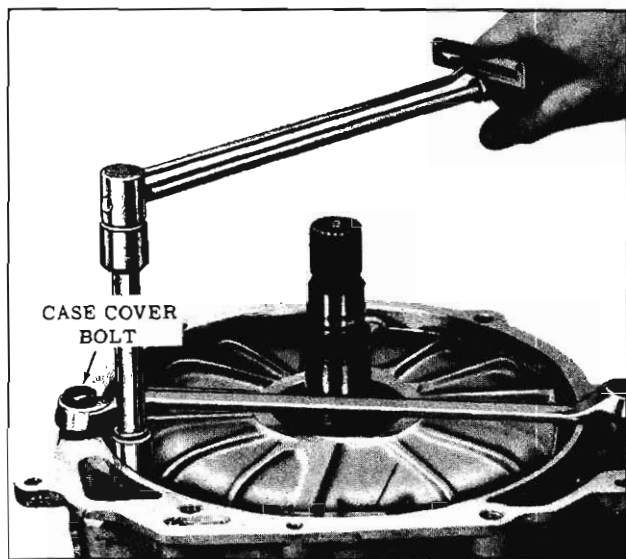

Fig. 6-113 Torus Cover Installation
16. Install box end wrench on case, as a holding tool, and install 12 torus cover to drive torus attaching bolts, cross tightening the bolts. Torque 17 to 20 ft. lbs. (Fig. 6-113)